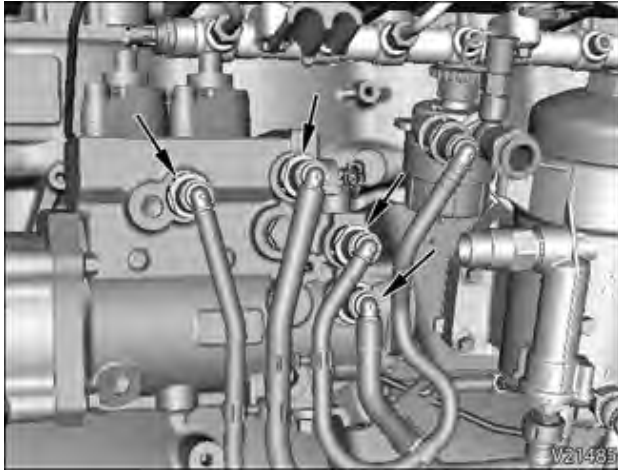

Figure 11. Low-pressure Fuel Lines
25. Label and disconnect four fuel lines from side of HP fuel pump (Figure 11).